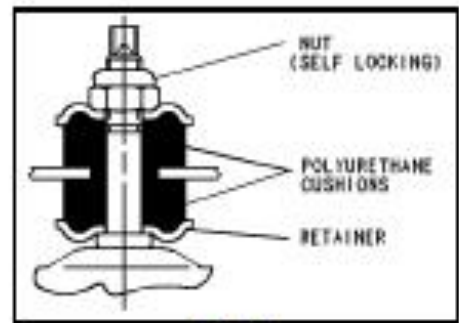

Figure 4.
When installing upper mounting stud hardware onto shock, assemble the shock stud mounting parts as shown in Figure 4.
- ☐ Follow steps covered in section 2.3 OME Front Shock Install, Fig. 4 to install lower shock mounting stud.